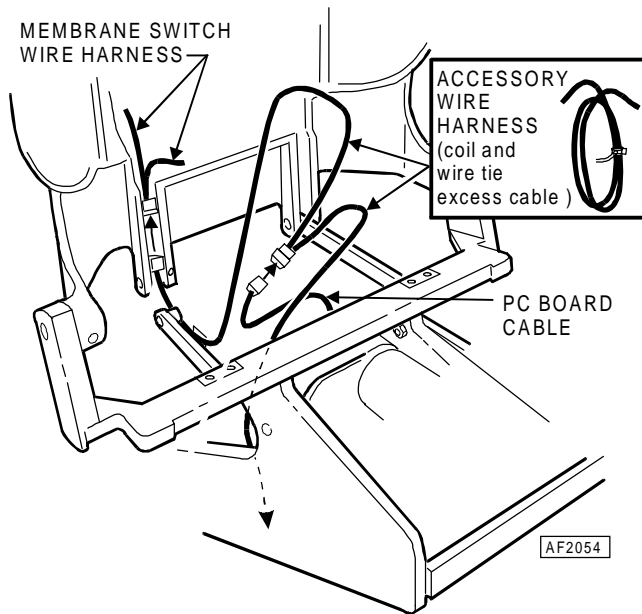

Figure 3
7. Plug the accessory wire harness into the connector on the existing membrane switch wire harness and run the long end downward (See Figure 3).
10. Coil all excess cable and neatly tie with the plastic cable ties provided for that purpose (See Figure 3).